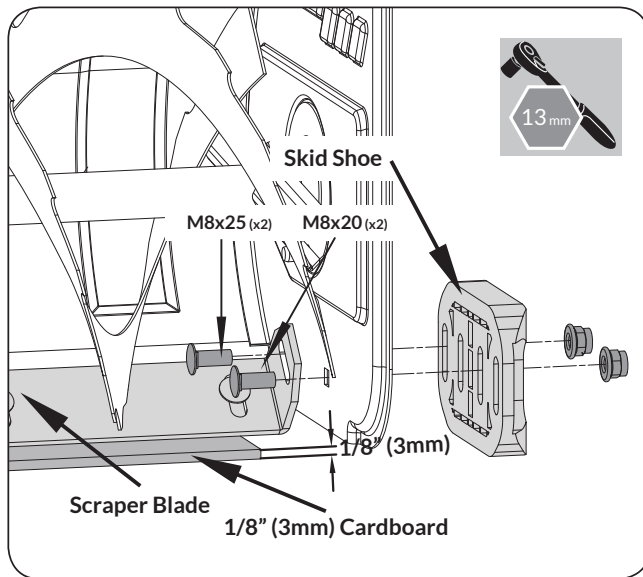

**Figure 9b**
- Make sure the spiral at the bottom is fully engaging with the chute crank flange and tighten the two bolts on the chute bracket. (See **Figure 9b**)